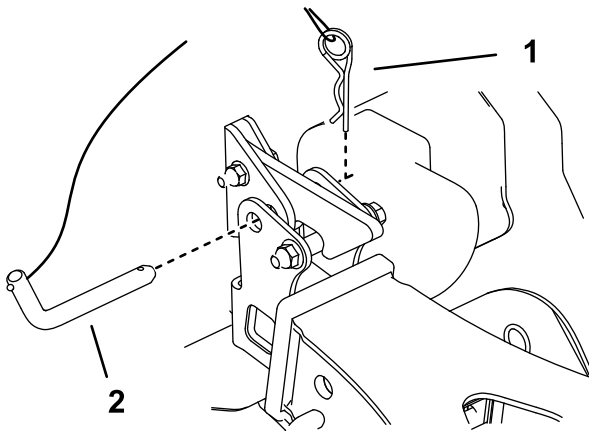

Figure 26
5. Remove the hitch pin and hairpin cotter securing the blower assembly to the hitch receiver (Figure 26).